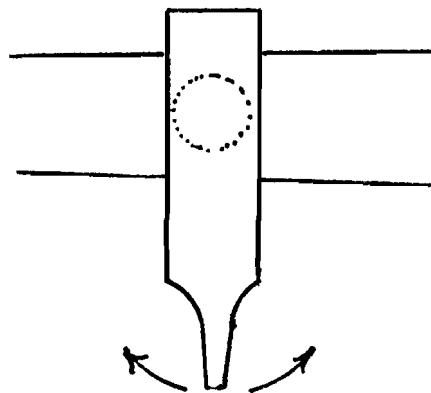

Figure 68
3. While holding the file flat on the tone hole with the thumb (Figure 67), move the file "tang" in a sidewise motion (Figure 68).